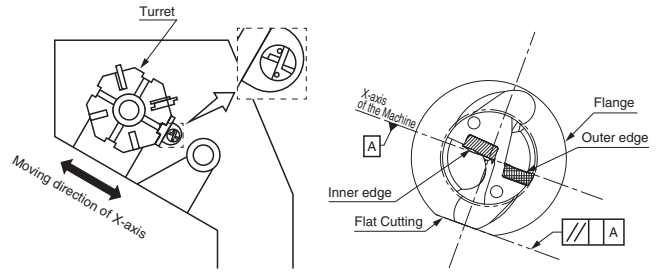
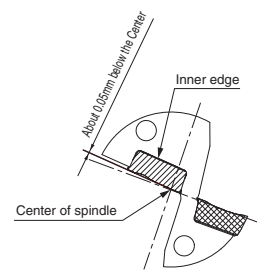

Fig. 1 Installed into the Lathe
Fig. 5 Front View of the Drill
- Adjust the scale at the flange periphery of the sleeve to the reference mark (DRV/DRX) or the center of coolant plug (DRZ). (Fig. 1)
- (1) The top face of the outer insert should be parallel to the X-axis to allow for offset cutting. (Drill diameter can be changed by moving X-axis.)
- (2) It is recommended to set the outer insert as shown in Fig. 1 with the outer insert facing the operator. (Fig. 1)
When installing inner insert as shown in Fig. 1, it will be set around 0.05mm below the Center of Spindle. (Fig. 5)